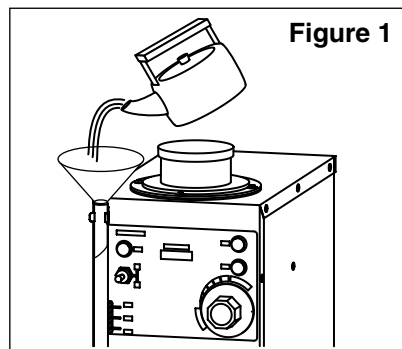

Figure 1
3. Check the water level meter for the level of water in the sake warming tank. If there is not enough water, or no water at all, remove the cap from the water level pipe, insert the accessory funnel into the pipe, and pour water into it till the water reaches the normal level of the water level meter (Figure 1). After filling the tank with water, put the cap back on the pipe.